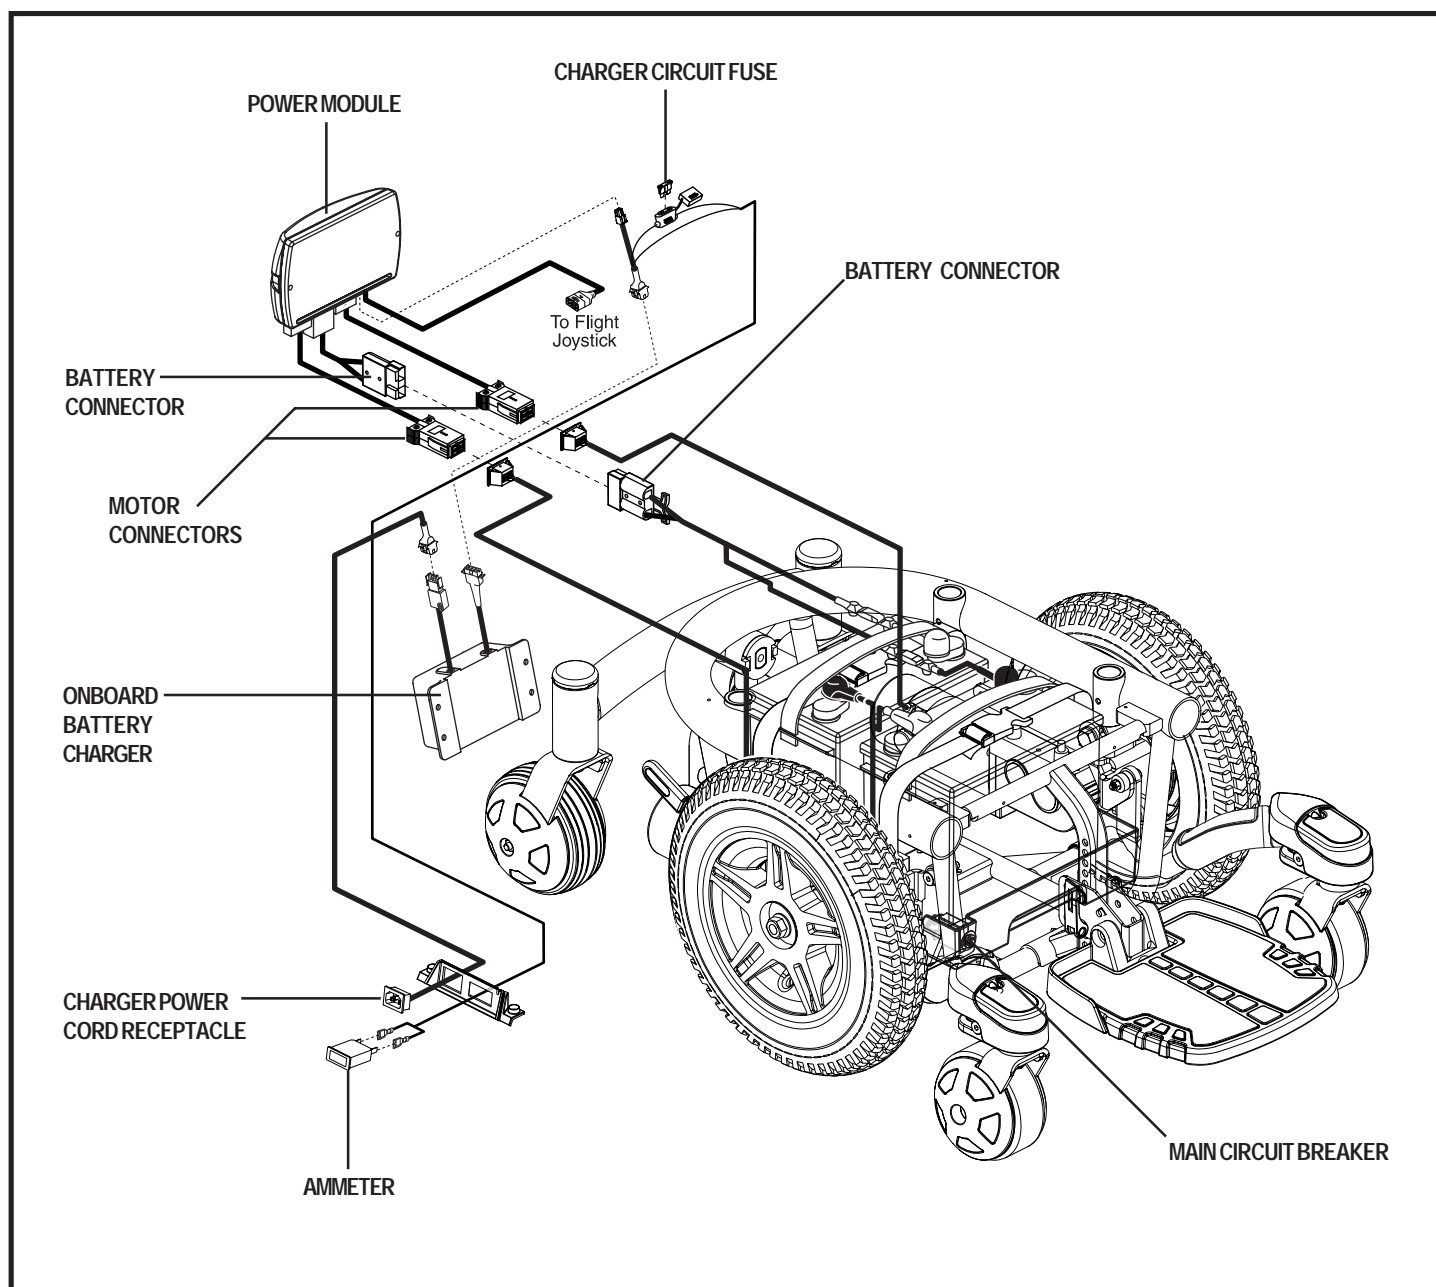

Figure 7. Jazzy 600 Series Electrical Components
The electrical components are located inside the power base. The ammeter and the charger power cord receptacle are located on the right side of the power base. The main circuit breaker is located on the front of the battery tray. The controller connector(s) are located inside the power base. See figure 7.
6. Plug the controller connector(s) into the power base. See figure 7.
3. Disconnect the controller connector(s) from the power base. See figure 7.